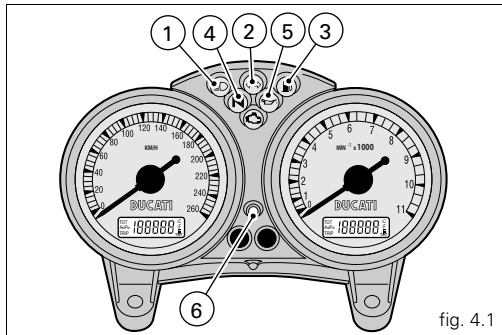
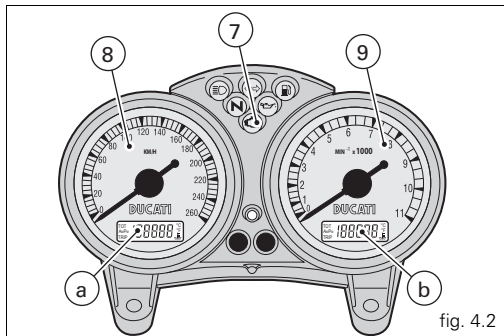

fig. 4.1
fig. 4.2
Instrument panel (fig. 4.1 and fig. 4.2)
In the event of faults in the immobilizer system, the following procedure makes it possible to disable the "engine lock" function, which is indicated by the yellow-amber EOBd warning light (7, fig. 4.1).
The EOBD warning light (7, fig. 4.1) goes off after the pre-set time of 8 seconds.
- 4) Count the number of flashes of the EOBD (7, fig. 4.1) light equal to the first number of the secret code. Open the throttle twistgrip, keep fully open for 2 seconds, then release. The digit entered is acknowledged, and the EOBD warning light comes on and stays on for the pre-set time of 4 seconds. Repeat the operation until you have entered the final digit. If no operation is performed with the throttle twistgrip, the EOBD light will flash 20 times and then illuminate steadily. In this case, repeat the procedure from step (1).
- 6) If the code was NOT entered correctly, the EOBD light will remain lit and the procedure can be repeated as many times as necessary by turning the key to OFF, then starting again from step (1).
- 1) if the code is recognised, the warning light (6, fig. 4.1) on the instrument panel will flash briefly. This means that the immobilizer system has recognised the code and disabled the engine lock. When you press the START (2, fig. 13) button, the engine will start up.
- 2) if either the warning light (6, fig. 4.1) or the EOBD light (7, fig. 4.1) remain lit, the code has not been recognized. In this case, it is advisable to turn the ignition key back to OFF and then to ON again. If the engine still does not start, try using another black key. If the engine still fails to start, contact the DUCATI Service network.
- 3) If the warning light (6, fig. 4.1) keeps flashing, it means that an error signal from the immobilizer system has been cleared (e.g. with the override procedure using the throttle twistgrip). Turn the key to OFF and back to ON; the immobilizer light should return to its normal state (see step 1).